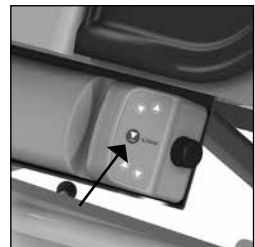

Figure 19 Emergency lowering Button
If the handcontrol stop working and the trolley is in a raised position, it can be lowered using the emergency lowering button. This button is located on the controlbox (See figure 19).
- Press the emergency lowering button (See figure 19).